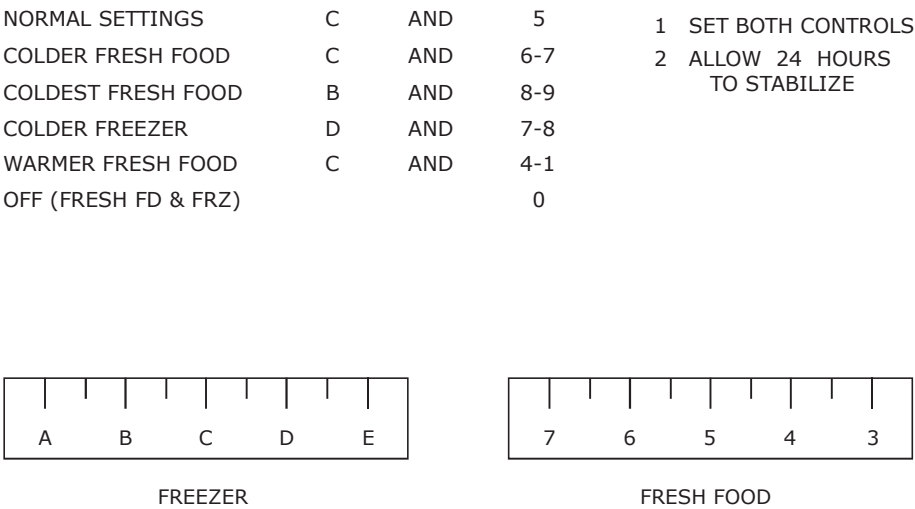

Figure 2.36: The fridge freezer controls and instructions.
- The two control dials (Figure 2.36) suggest a particular conceptual model (Figure 2.37) for operating the fridge freezer.